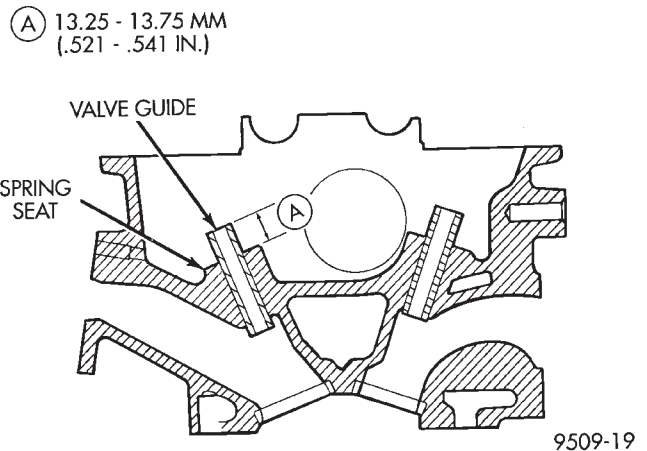

Fig. 98 Valve Guide Height
- (3) Check valve guide height (Fig. 98).